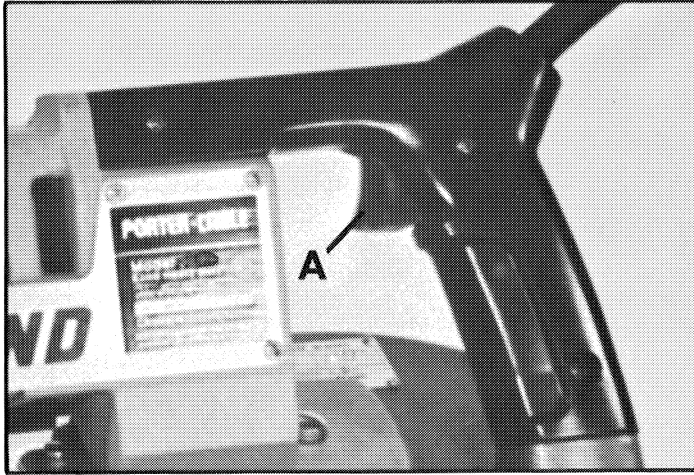

Fig. 1
2. Squeeze Trigger Switch (A) Fig. 1 to start motor. Release trigger to stop motor.
When the trigger switch (A) Fig. 1 is squeezed, the saw will operate at the speed indicated by the readout display. When the trigger switch is released and the motor has stopped, the next time the trigger switch is squeezed the saw will start at the same speed at which it had been running as long as the power plug has not been disconnected from the power source.